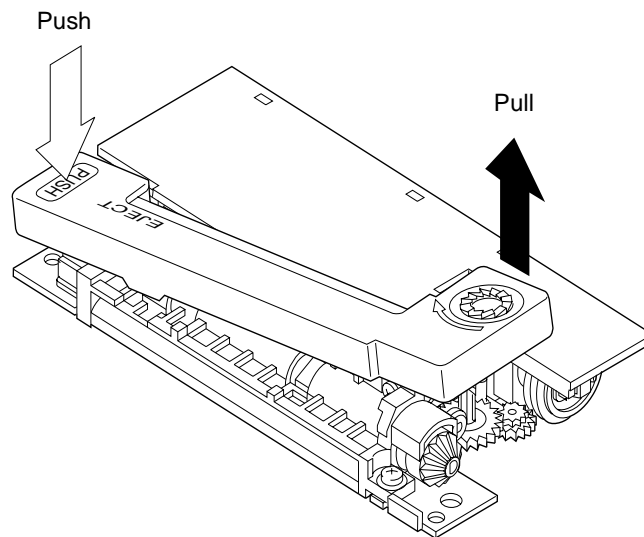

Figure 2-9 Removing the Ribbon Cassette (II)
- 2) Push section A (indicated as "PUSH") of the ribbon cassette in the direction of the white arrow in Fig. 2.9 with a finger tip so that the knob side of the ribbon cassette will come loose. Then pull it up in the direction of the black arrow to remove it.